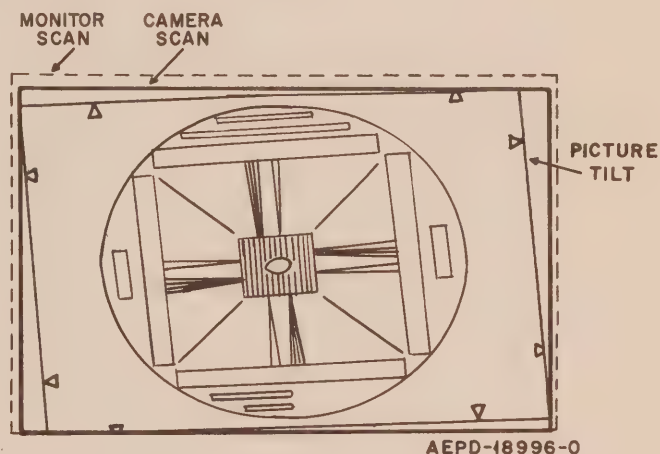

Figure 9.
(3) Set FOCUS control to mid-range position.
(4) Set the OFF-MAN-AUTO selector switch on the control unit to the AUTO position.
(5) Uncap the lens.
(6) Adjust the BEAM control to resolve the highlights (turn knob clockwise until the picture just appears normal).
(7) Adjust the FOCUS control for maximum picture resolution.
(8) Set the lens focus collar to the proper distance.
(9) Set the lens iris collar for the widest opening (smallest F number).
(10) Adjust the focus screw, located beneath the lens mounting plate, for best optical focus.
(11) From this point on, adjust the optical focus via the lens collar.
(12) Reduce the monitor raster using horizontal size, vertical size, and vertical linearity controls.
(13) Adjust the picture for proper horizontal size using the test pattern diagram. Refer to Figure 9.
(a) Rotate the HORIZONTAL SIZE control until the arrowheads on one side of the picture just touch the edge of the raster. Refer to Figure 9.